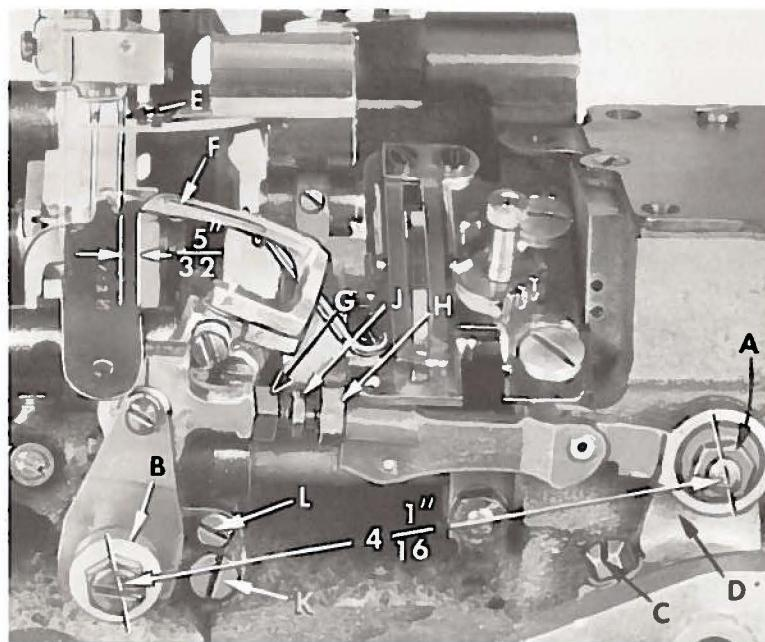

Fig. 6
With the looper at the extreme right end of its travel, check the location of the center line of the right looper connecting rod bearing, using gauge No. 21227 CX. Remove nut (A, Fig. 6) and place hole in gauge over threaded stud.
Insert a new set of needles, type and size as specified. Also insert front looper. The distance from the center of the right needle (E, Fig. 6) to the point of the front looper (F) should be $5/32$ inch, when the looper is at its farthest position to the right. Looper gauge No. 21225- $5/32$ can be used advantageously to check this setting. If adjustment is required, loosen nut (G, Fig. 6) (it has a left hand thread) and nut (H)
The left end of the gauge should locate against the right side of the looper rocker cone (B). If adjustment is necessary, loosen the clamp screw (C, Fig. 6) and reposition the looper drive lever (D) as required. Tighten clamp screw. If gauge is not available, setting can be checked with a scale. The distance between the center line of the looper rocker cone and the centerline of the looper lever stud should be $4 \frac{1}{16}$ inches (Fig. 6), when looper is at the extreme right end of its travel.
If adjustment is necessary, loosen lock screw (K, Fig. 6) and turn stop screw (L) as required. Turning stop screw clockwise sets the loopers to the rear and turning it counterclockwise acts the reverse. Holding the loopers to the front while making this adjustment may prove helpful. Tighten lock screw securely after setting is obtained and recheck the adjustment. Insert back looper and obtain the same needle-looper relationship. A minute adjustment of looper-needle relationship can be accomplished by applying pressure on the loopers in looper rocker, so as